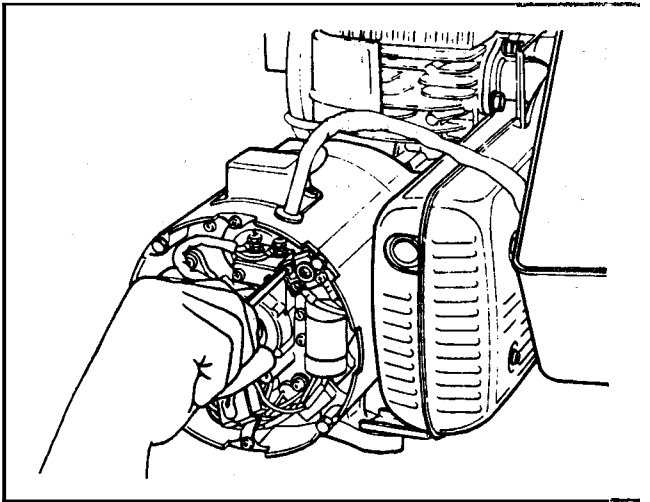

Figure 126
43. Reconnect the AC output wires on the terminal block. Be sure to match the color coding. See Figure 126.